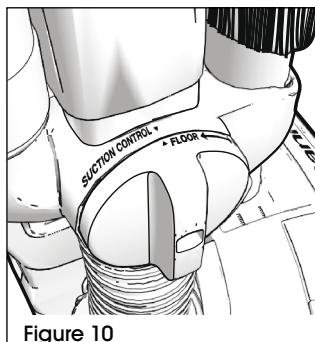

Figure 10
- To return to floor cleaning, rotate the valve towards the front of the cleaner until the indicator points to the floor setting. Replace the wand into the lower retainer and secure into the wand clip. The cleaner is equipped with a wand device that prevents the wand from being stored until the suction control valve is set to the floor position. (See Figure 10)